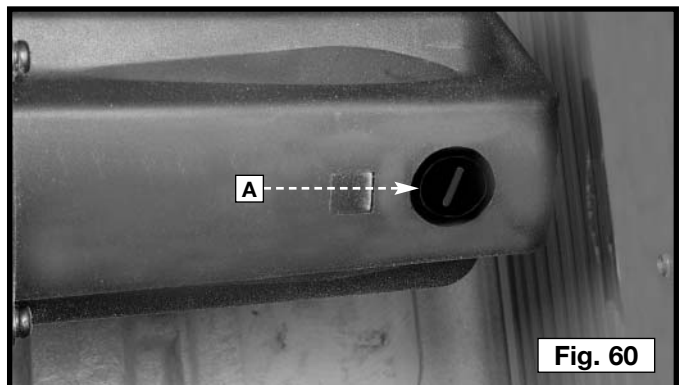

Fig. 60
2. One brush holder is shown at (A) Fig. 60 (from underneath the saw table).